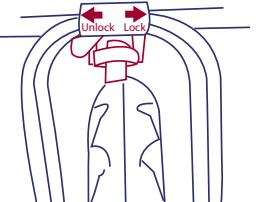

Figure 18a.
2. Always lock the front swivel wheel of your jogging stroller before you begin to jog. Please see figure 18A.